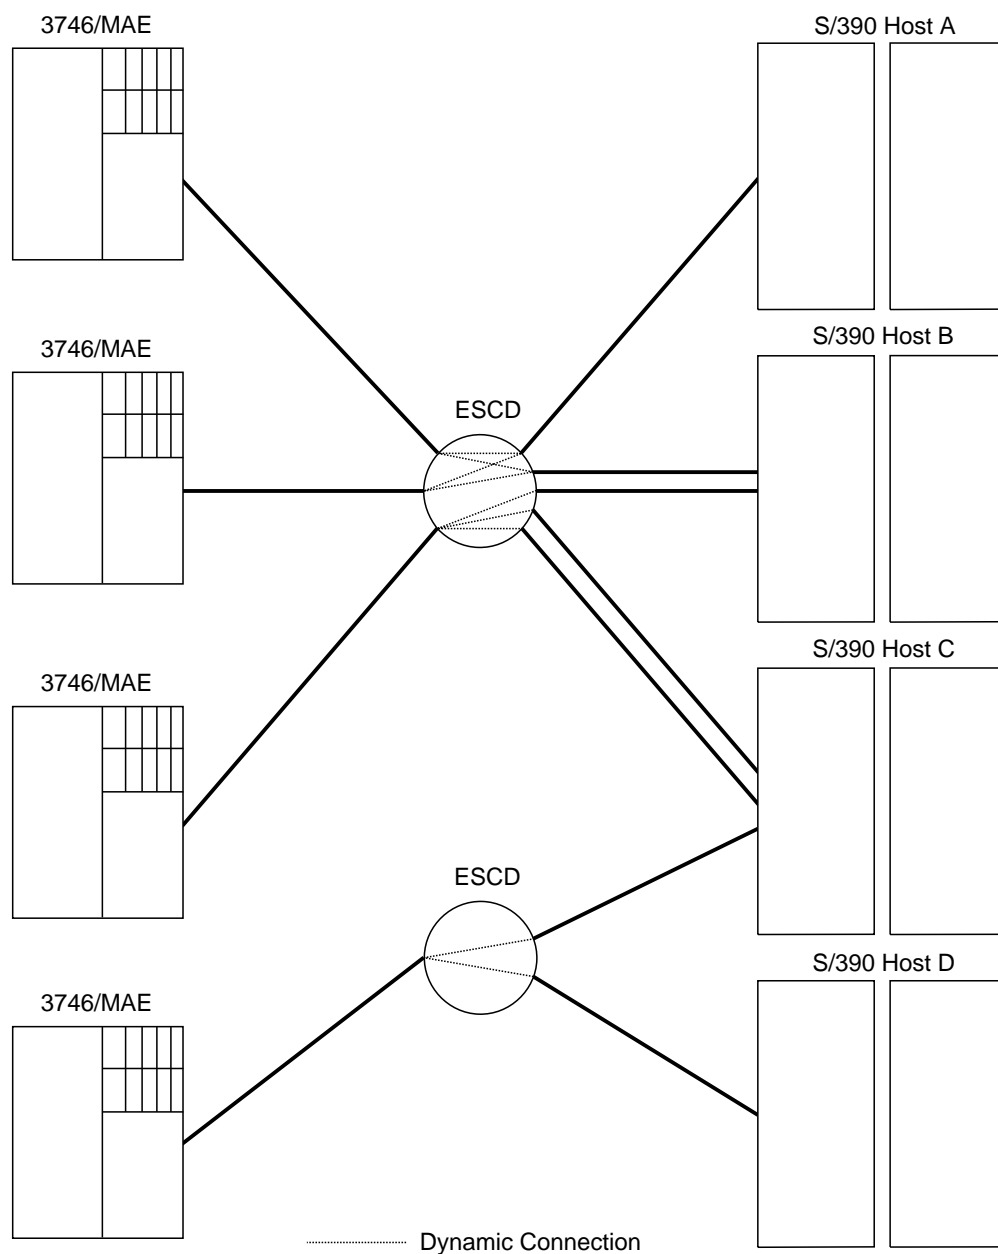

Figure 22-4. Multiple System ESCON Connections Example
See Figure 22-4 on page 22-9.
**Multiple Systems Attachment with ESCDs:** Figure 22-4 shows the connection of multiple S/390 hosts to single and multiple multiaccess enclosures, with possible backup paths. A fault-tolerant solution can be designed using backup channels, multiple ESCDs, and/or multiple multiaccess enclosures.